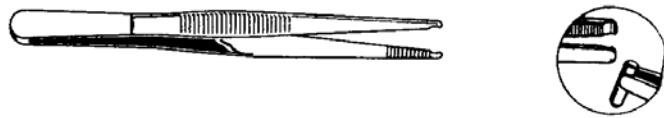

Fig 7
3. A pair of large tweezers for removing and inserting the tumbler pins. These can be purchased at most hardware suppliers. You may wish to file the tips as shown in Figure 7 to further aid holding the small pins.